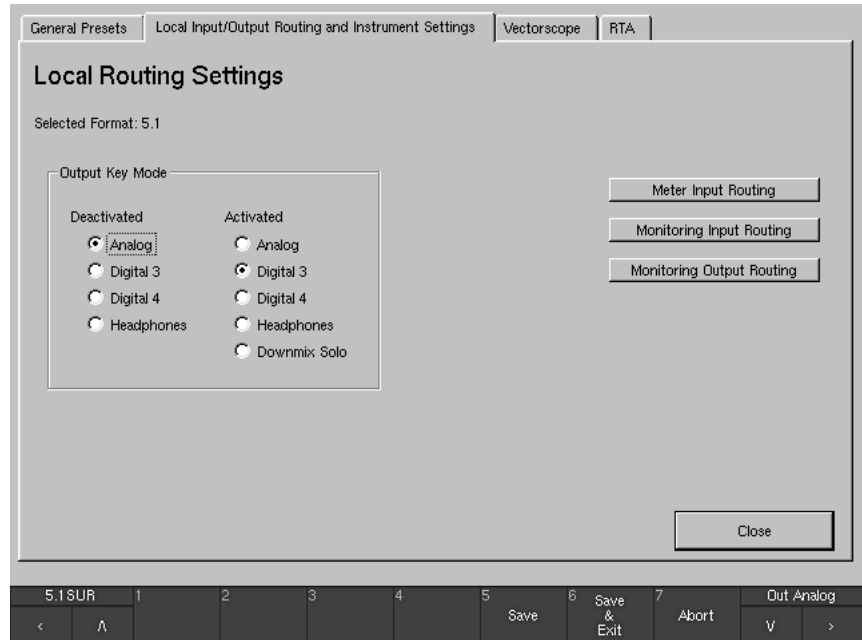

Fig. 3-11: The Local Routing Settings menu
- Use the **Close** button to store the settings and to get back to the **Local Routing Settings** menu page (see Fig. 3-11).
See Fig. 3-11